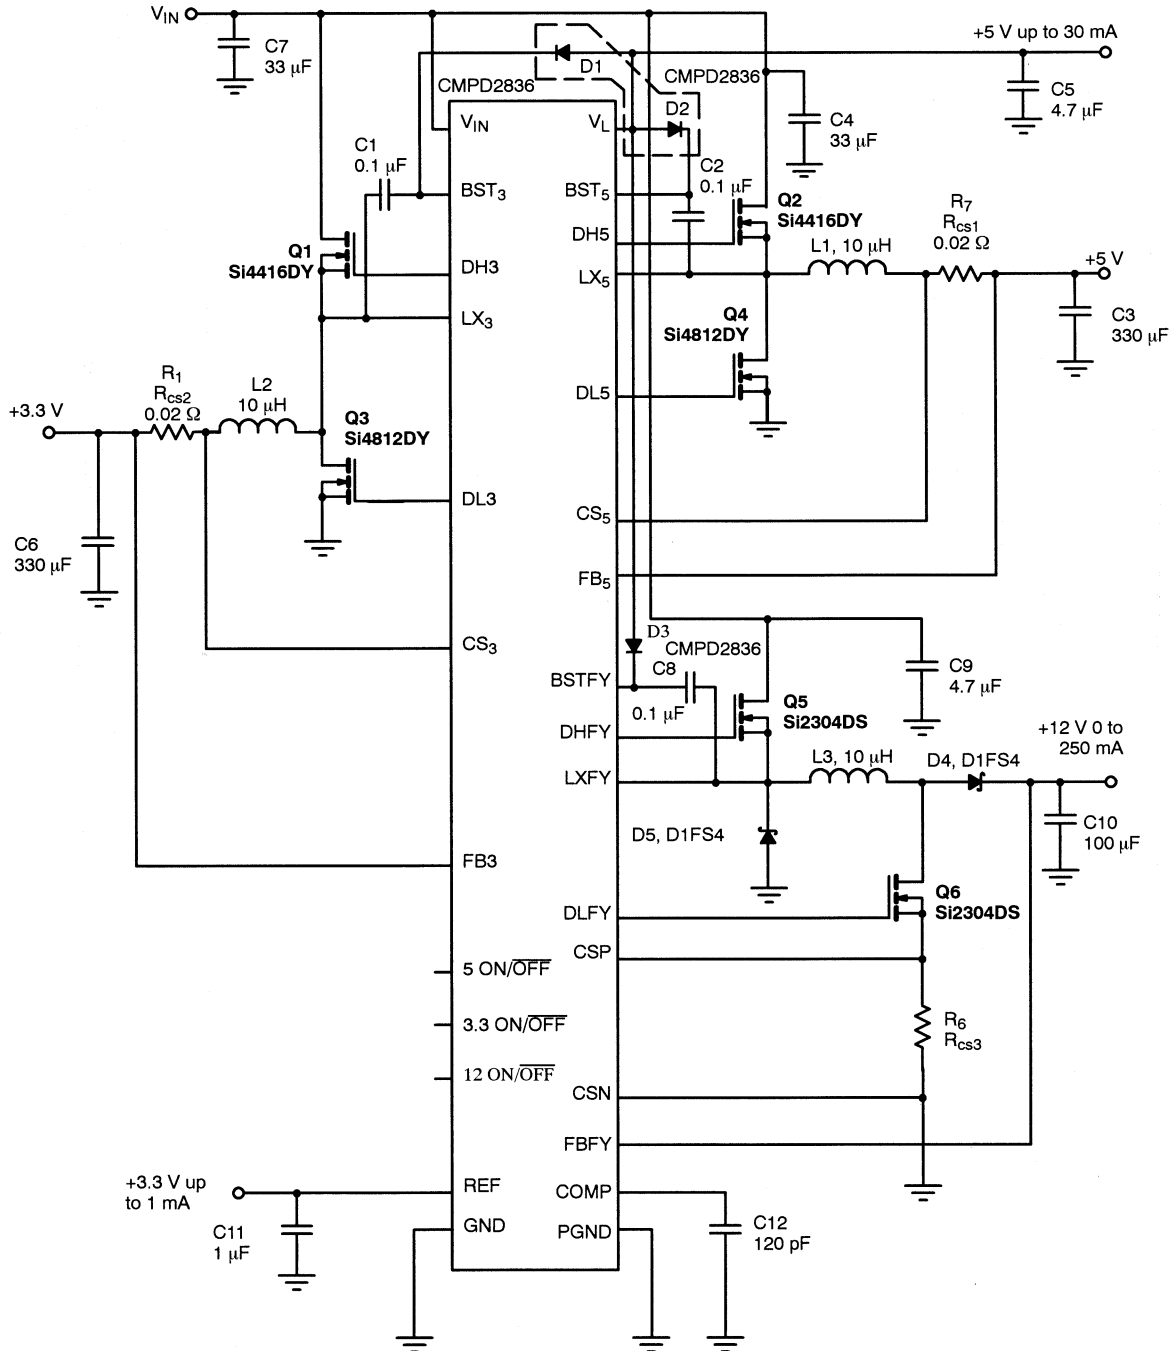

FIGURE 4. Typical Application Circuit
All three converters in the Si9136 are constant-frequency, pulse-width modulation (PWM) or pulse skipping modulation (PSM) current-mode controlled switching regulators. The switching frequency is fixed at 200 kHz inside the IC for all three converters. A typical application circuit is shown in Figure 4. The 3.3-V and 5-V converters are synchronous buck (or step-down) converters, because the input voltage is always higher than the output. Both MOSFET gate drive signals from the controller, DH and DL, are designed for n-channel power MOSFETs. The upper rail for the low-side driver (DL) is 5 V and can drive the MOSFET directly. Since the high-side switch is floating, the logic high for the driver has to be referenced to the logic low (LX). When the high-side switch is on, the LX pin voltage level is the same as V_{IN} . So V_{GS} needs to be built on top of the LX. A flying capacitor (C1 or C2) is connected between the upper rail of the high-side driver (BST) and LX. V_L replenishes this capacitor to one diode drop below 5 V through D1 or D2 when the low-side switch is on.